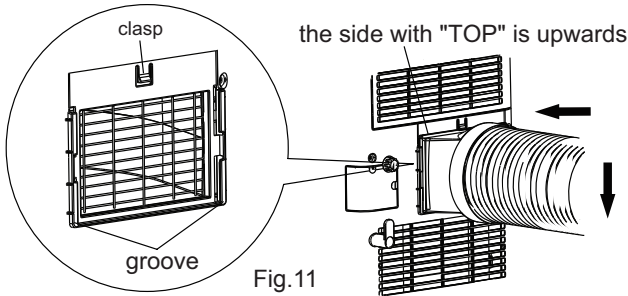

Fig.11
- (2) Insert joint A of heat discharge pipe (the side with "TOP" is upwards) into the groove until you hear a sound. (As shown in Fig.11)